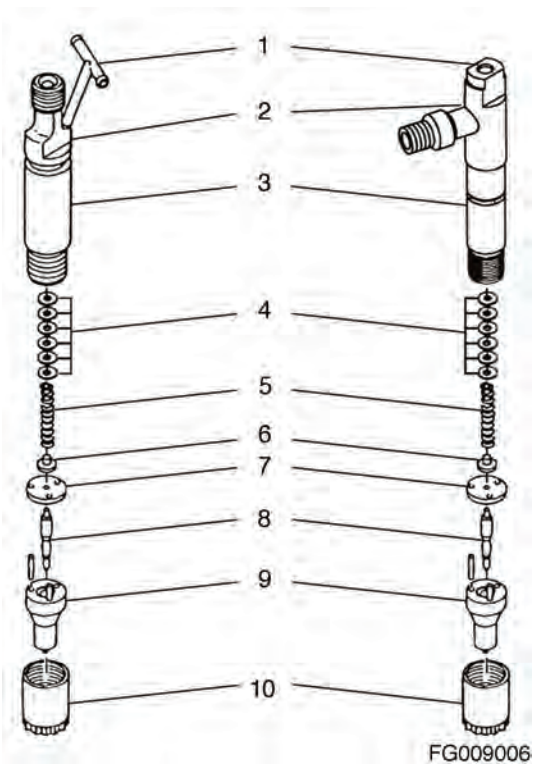

Figure 291
4. Pump the operating lever of the tester slowly, observing the pressure reading at the point where the fuel injector begins spraying fuel (Figure 286). Figure 291 for injector ID location. See "Fuel System Specifications" on page -170. for correct pressure readings.
The fuel injectors open when pressure reaches a predetermined pressure threshold. They close when the pressure is reduced below that threshold. The pressure threshold can be adjusted by adding or removing shims (3, Figure 291).